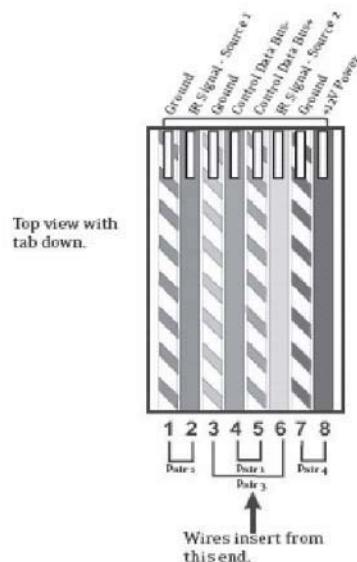

Fig.1: EIA 568A wiring scheme for Cat 5 Cable
The correct wiring scheme for the Cat5 cable is standard EIA/TIA 568A. Properly terminating the Cat5 cable is crucial for the operation of the system. It is very important to use a good quality crimp tool, and testing each end to end run with Cat5 wire tester will insure that your system operate flawlessly, Fig. 1.
- Step2 Untwist the wires and fan them out individually. Arrange the wires into the correct color scheme as shown in Fig.1